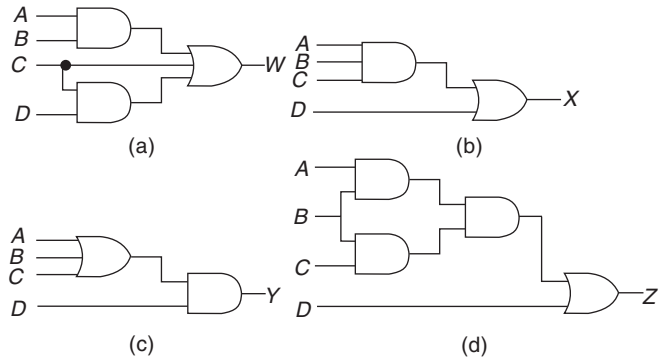

Fig. 5.15
5.39 Write the Boolean equation for each of the logic circuits shown in Fig. 5.15.